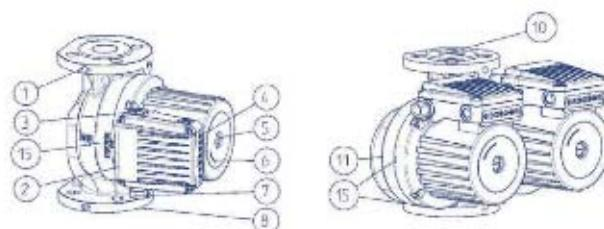
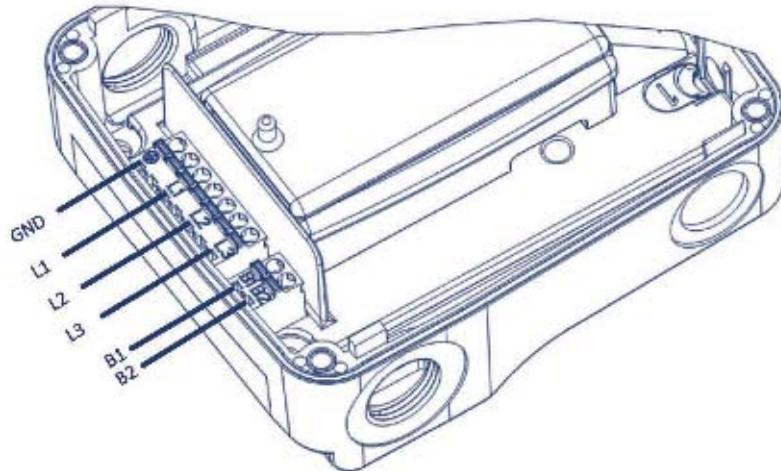

Figure 1 GMIN basic II and GIND basic II
Figure 3: Electrical scheme
Desired head orientation can be achieved by rotating the pump head (allowed positions shown in figure 1). Pump head is mounted to hydraulic casting with four screws. By unscrewing those, the pump head can then be turned.
The connecting wire has to be connected over a cable entry M20 (Fig. 1 - POS. 7).
Electrical connections of the pump must be carried out in accordance with the wiring diagram (Fig. 3), attached on the bottom of motor cover. Before doing that unwind the upper cover (Fig. 1 - POS. 2). By the standard IEC 60446 it is recommended to use the following electrical wiring order:
Each pump is able to cover the areas of three hydraulic characteristics. To achieve this, it has an inbuilt electric motor with three different speeds. For achieving the selected characteristics or speeds ① ② ③, the pump has a speed selector [Fig. 5]. To change the speed, the upper cover has to be removed [Fig. 1 - POS. 2], then replace the speed selector to the desired speed.
Switch off the pump, close the valve on both pressure and suction sides of the pump, unscrew the vent for deaeration, place the screwdriver (Fig. 1 - POS. 5) in the notch on the shaft and twist as long as friction forces allow. Then screw the vent for deaeration.